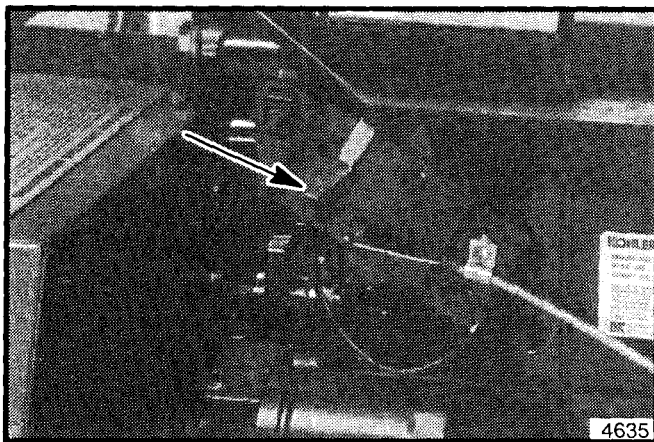

Figure 3. Choke Control
4. Use the choke as required to start a cold engine. Choke control is located on the front of the engine (see figure 3).